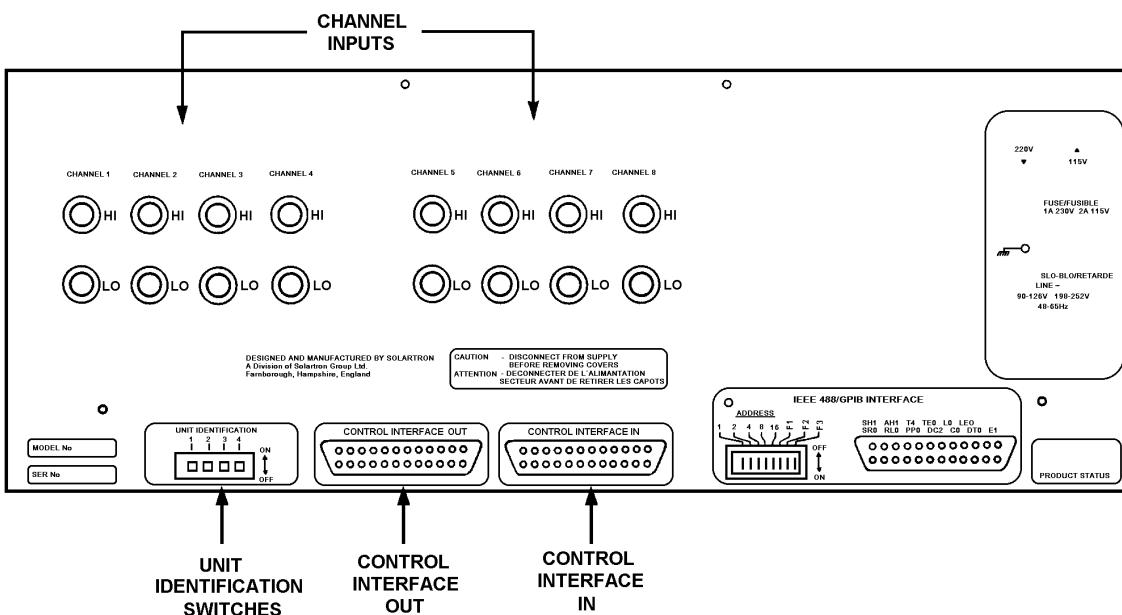

Fig. 16.2 - 1251 Rear Panel
2. Plug the other end of the ribbon cable into the first of the 1251 Units, via the connector labelled **Control Interface In** mounted on the rear panel of each 1251 Unit, as shown in Fig. 16.2.
There is a set of four switches (numbered 1 to 4) on the rear panel of each 1251 Unit, labelled **Unit Identification**, as shown in Fig. 16.2. Each 1251 Unit must have one of the four switches, and one only, in the ON (up) position. The number of the switch selected becomes the **Unit number**; this number must be different for each 1251 Unit, to enable the 1250 to distinguish between Units in the 1250-1251 Interface Bus and route data correctly to and from them.